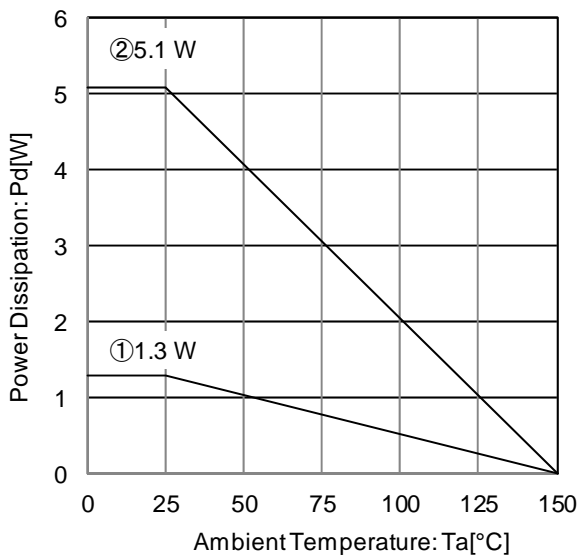

Figure 26. Package Data (TO252-3)
At $T_a=125^\circ\text{C}$ with Figure 26 ② condition, the calculation shows that ca 100mA of output current is possible at 10.2V potential difference across input and output.
At $T_a=125^\circ\text{C}$ with Figure 26 ② condition, the calculation shows that ca 120mA of output current is possible at 8.5V potential difference across input and output.